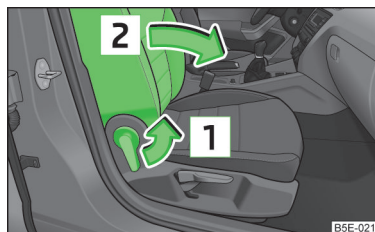

Fig. 54
- Place the lever in position **1** » Fig. 54.
- Place the lever in position **[1]** » Fig. 54.